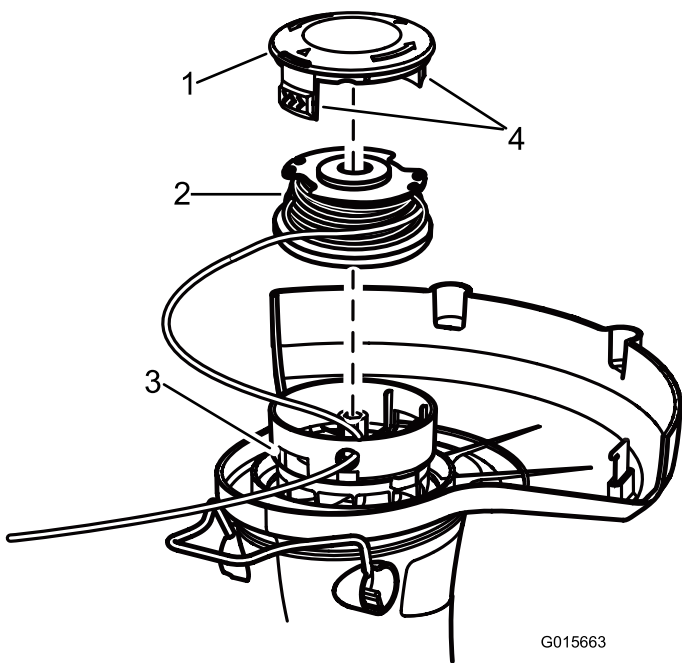

Figure 10
- Push in the tabs on the side of the spool retainer (Figure 10).